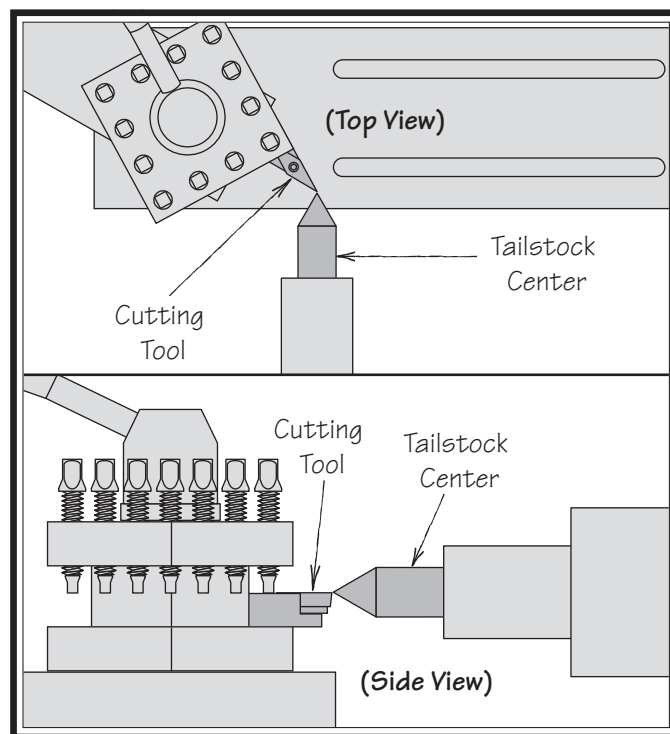

Figure 68. Cutting tool tip aligned with tailstock center.
4. Adjust the height of the cutting tool so that the tool tip is aligned vertically and horizontally with the center tip, as shown in **Figure 68**.